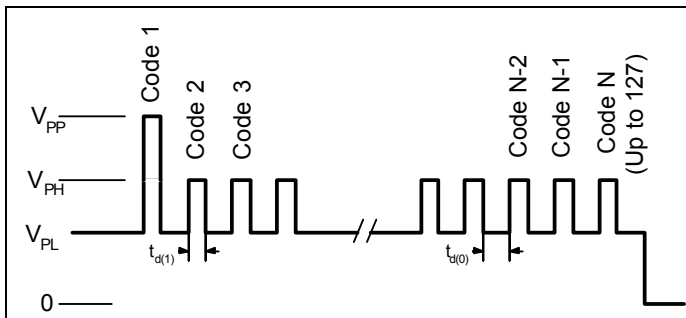

Figure 2. Addressing Pulses: Positive Polarity
**Addressing with positive polarity** The magnetic operate point,  $B_{OP}$ , is adjustable using 7 bits or 128 addresses. The addresses are sequentially selected (figure 2) until the required operate point is reached. The first address must be selected with